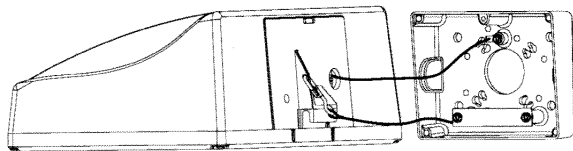

FIGURE 1
- An alternate method of mounting the Mounting Box over a recessed-mounted outlet box is to position back cover over the box and securely mount with lag bolts (not provided) through the holes provided in the back cover (see *Figure 1*).